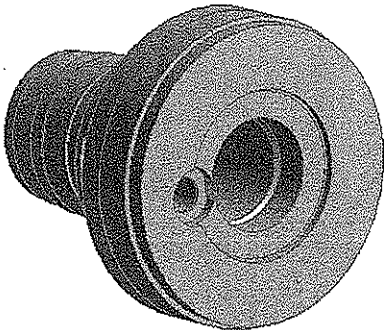

Figure 7-71 Model after merging the holes with the main body
- 19. Choose the **Generate** tool from the **Features** toolbar; the fills in the holes and the main body merge into a single body and the holes with the fills are no more visible, as shown in Figure 7-71.